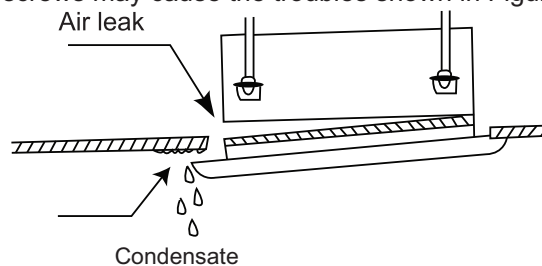

Figure 3-1-46
- (7). Improper screwing of the screws may cause the troubles shown in Figure 3-1-46.